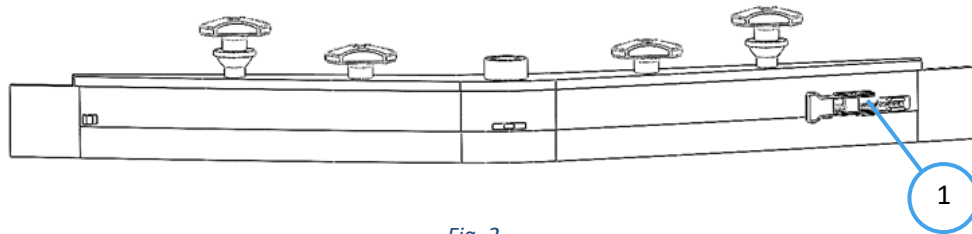

Fig. 2
6. Open the latch on the Squeegee assembly (Fig 2) and remove the metal blade.